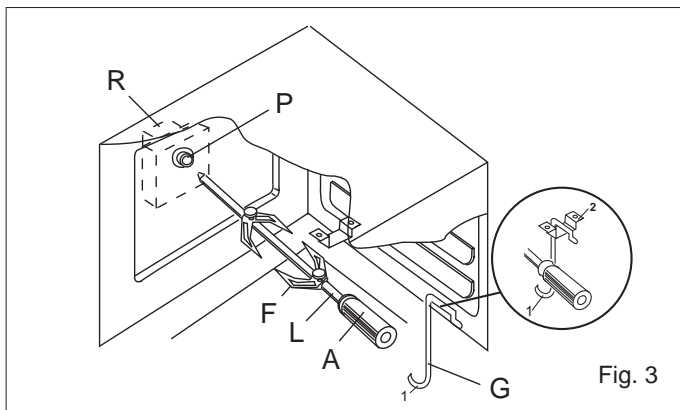

Fig. 3
- Put the food in spit **L** (see fig. 3), paying attention to block it within the two forks **F** and to balance it, in order to avoid any unnecessary effort in motor **R** (fig 3).
- To remote the spit, operate in the opposite direction using knob **A** and protecting glove in isolating wool (see fig. 3).